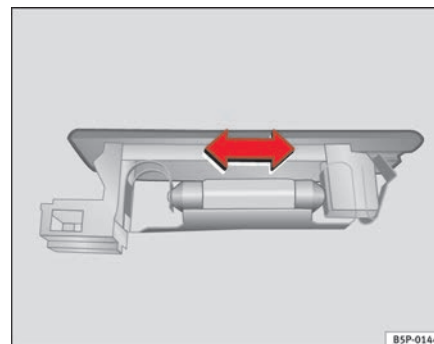

Fig. 192 Luggage compartment light
- Press the lamp sideways and remove it from the housing ⇒ fig. 192. ■